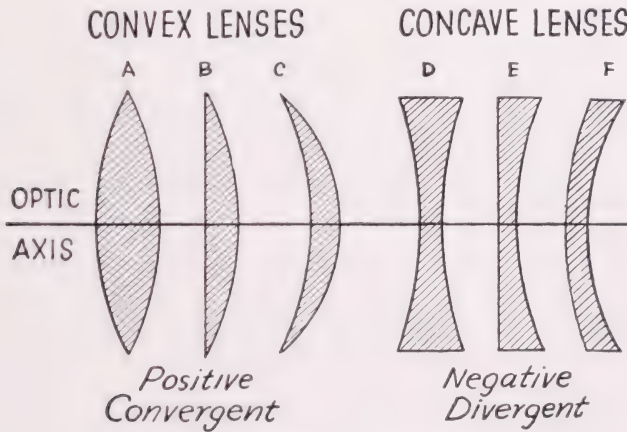

FIG. 17. THE DIFFERENT KINDS OF LENSES
class, of which there are three, are those that curve out on one or both sides, and the second class, of which there are also three, curve in on one or both sides. These lenses are shown in Fig. 17 and are (1) the *biconvex*, or *double convex*, (2) the *plano-convex*, and (3) the *converging*, or *positive meniscus*.4 All belong to the first class.